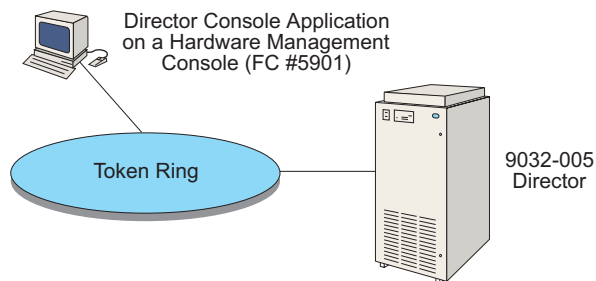

Figure 12. Director Console Application on a Hardware Management Console
3. The S/390 Server's Hardware Management Console (Figure 12). Refer to "Hardware Requirements" on page 22 for minimum specifications.